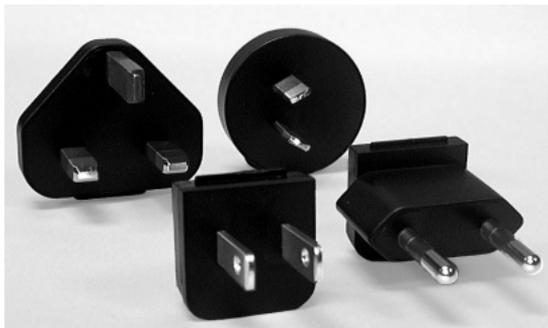

Figure 2-6: AC Charger/Adapter with Guard.
1. Pull down on the Release and remove the Guard if it is in place (see Figure 2-6 on page 2-12).